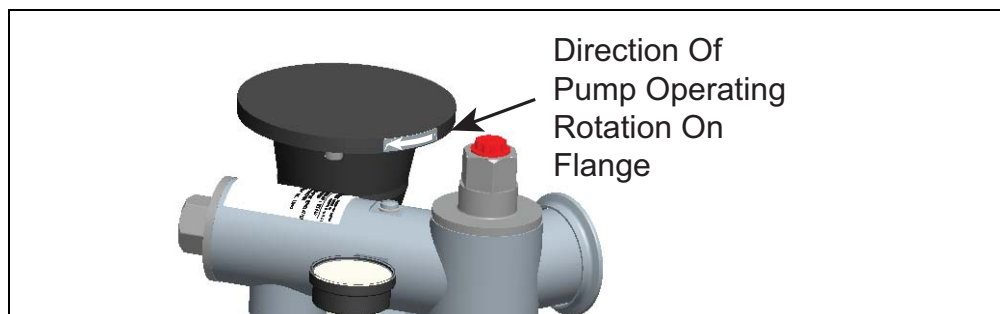

Figure 20. Pump Rotation For Normal Operation
Warning: To avoid pump damage, the DEF pump must always be operated in the correct direction (see arrow indicator located on the pump flange - Figure 20).
2. Apply power to the RJ DEF Motor and verify motor rotation matches the direction of the rotation arrow marked on the RJ DEF Pump motor mounting flange (see Figure 20).